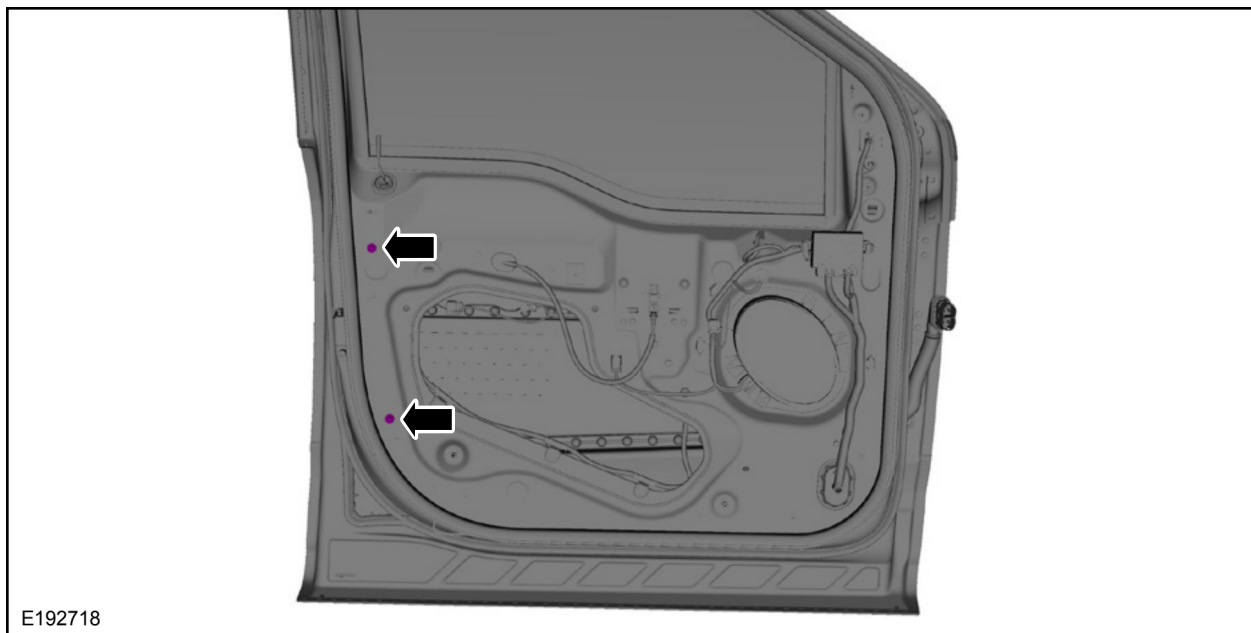

FIGURE 7
9. Remove the two front door window run bolts. See Figure 7.
24. Install the two front door window run bolts. See Figure 7.